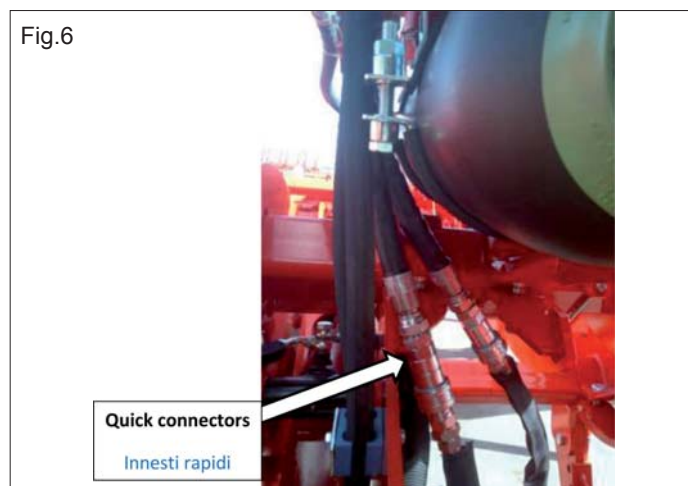

Fig.6
2. With the implement lifted off the ground (no contact between tines and ground), connect the two hydraulic quick connectors between accumulators unit and implement hydraulic unit. Be sure of a good connection between connectors because of the high pressure value during work. (Fig.6)
- a) Verify that in the accumulators unit there is no pressure (read its value on manometer: this must be zero). In case of pressure, open the drain manual valve to discharge it (pay attention: oil flux can exit from the drain tube); (Fig.6)
3. Verify that the drain manual valve is closed, connect the machine to tractor and give pressure with tractor hydraulic pump. Maybe that the implement hydraulic unit has air bubbles inside: for draining them the drain manual valve can be used by gradually opening it (pay attention: oil and air high pressure fluxes can exit from the drain tube). (Fig.6)